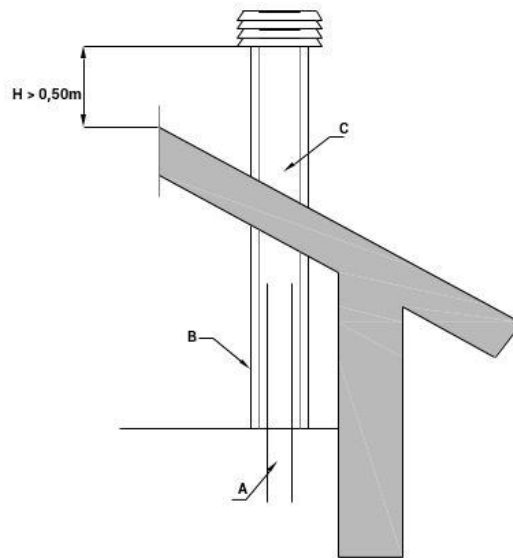

Figure 2.6: Example of the connection with the chimney
In the case of exhaust ducts with a larger diameter, a steel pipe (A) must be placed inside the brick or mortar of the chimney (C), as shown in Figure 2.6.